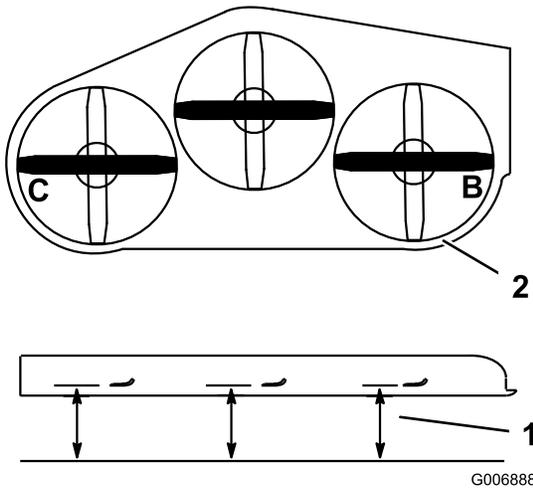

Figure 74
2. Measure at the **B** and **C** locations from a level surface to the cutting edge of blade tips (Figure 74).